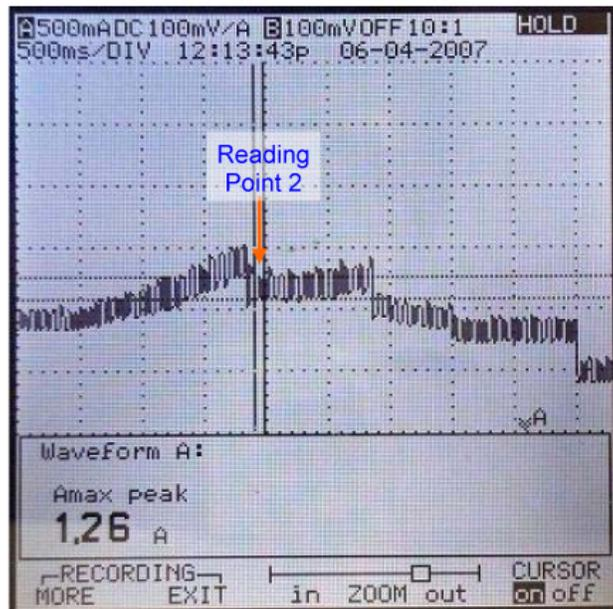

Figure 19. Maximum Current Value of Reading Point 2.
- 8.5 Use LEFT CURSOR and RIGHT CURSOR buttons to position cursors as shown in Figure 19.